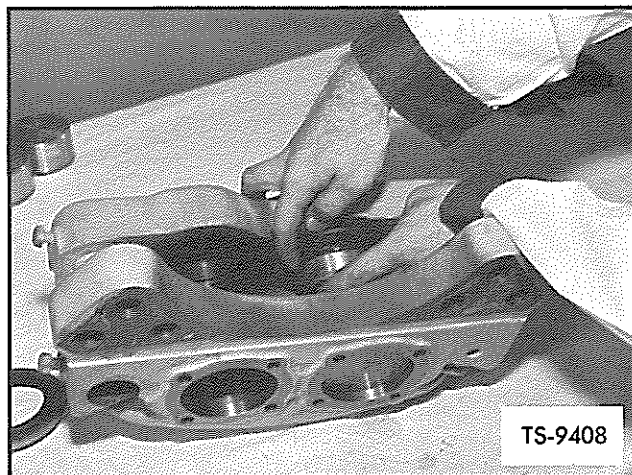

Fig. 27. Reinstall Pistons
20. Reinstall pistons in cylinder bores by sliding piston thru rubber boot as shown in Figure 27. Be careful not to